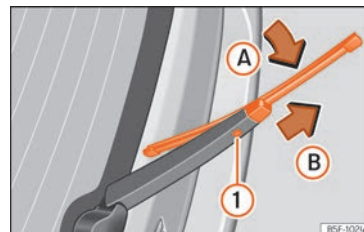

**Fig. 52** Changing the rear wiper blade
- Turn the blade slightly » Fig. 52 (arrow A).
- Hold down the release button ❶ while gently pulling the blade in the direction of arrow B.
- Insert a new blade of the **same length and type** in the rear wiper arm in the opposite direction to the arrow B and hook into place button ❶.